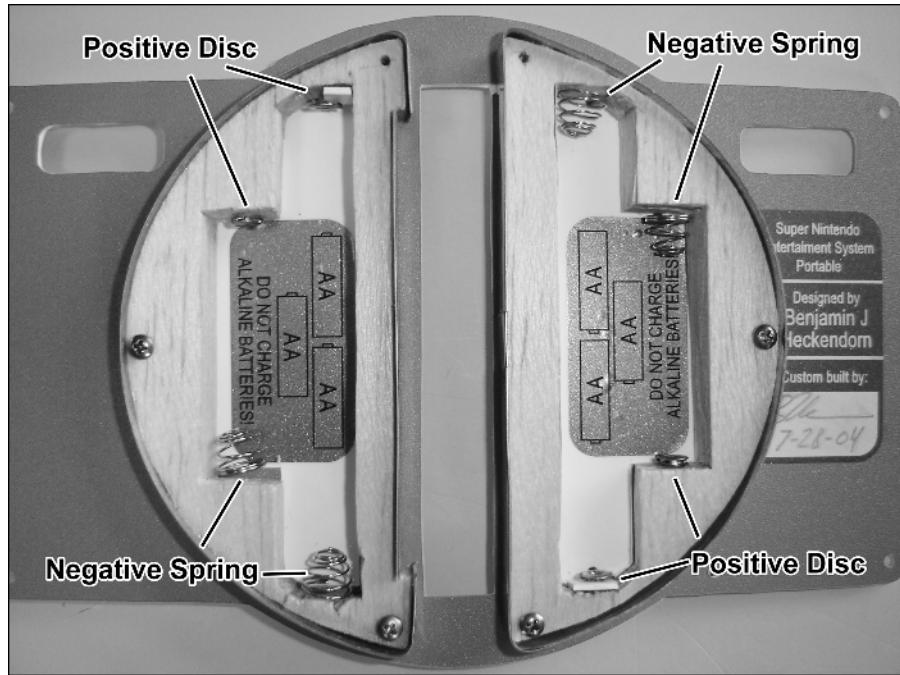

FIGURE 10-16: The placement of the battery terminals and decals.
2. Place the terminals and decals inside the battery compartments as shown in Figure 10-16, snaking the leads down the holes.